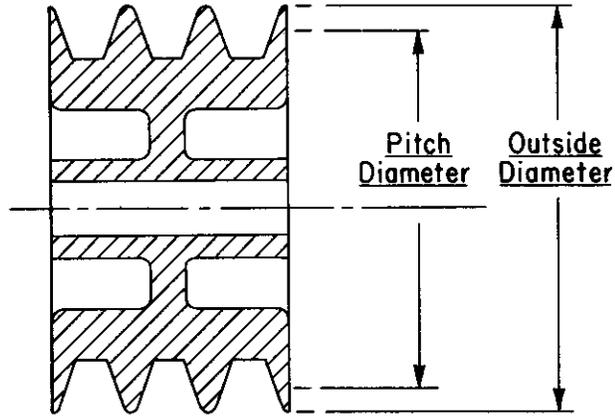

Fig. 7 - Sheave Cross-Section
5.08 The pitch diameter and outside diameter of a typical V-belt sheave is illustrated by Fig. 7.